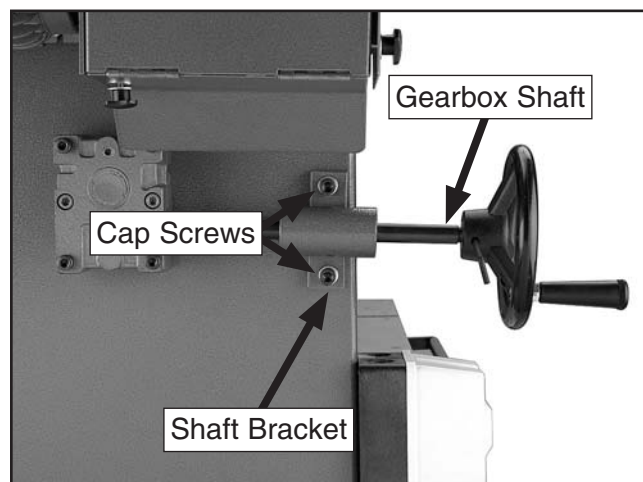

Figure 24. Gearbox shaft.
18. Remove the gearbox shaft bracket by unthreading the (2) cap screws, sliding it over the shaft, then attaching it with the removed cap screws (**Figure 24**).